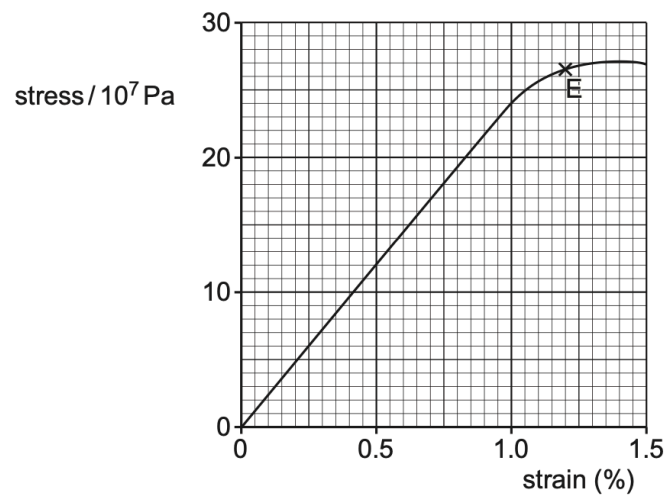

Fig. 3.1
- 6 (a) The variation of stress with strain for a metal P is shown in Fig. 3.1.
- (i) Use Fig. 3.1 to determine the Young modulus for P.
- (ii) On the line in Fig. 3.1, draw a cross (x) to show the limit of proportionality. Label this point Q. [1]
Use Fig. 3.1 to state and explain whether the wire will behave plastically or elastically as the stress doubles.